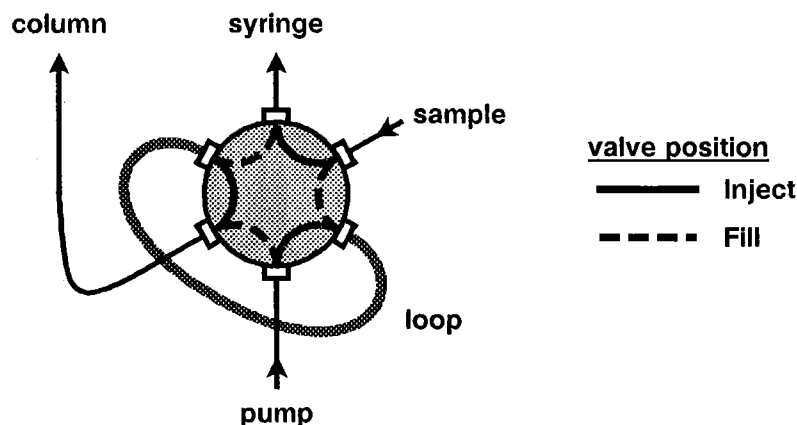

Fig. 19: Operating principle of the injector at the 690.0010/690.0020 Ion Chromatographs
A **manually** operated VALCO loop injection valve with a **100 µL loop** is built into the 690.0010 Ion Chromatograph for the injection of samples. If other sample volumes need to be injected, this loop must be replaced by a commercially available loop with the desired volume (e.g. 6.2620.080 sample loop 10 µL). Fig. 19 shows a schematic representation of the operating principle of the injector in the positions "Fill" and "Inject".
A VALCO loop injection valve – triggered **electrically** either by pressing switch (34) or externally by the 698 Autosampler – with a **100 µL loop** is built into the 690.0020 Ion Chromatograph for the injection of samples. If other sample volumes need to be injected, this loop must be replaced by a commercially available loop with the desired volume (e.g. 6.2620.080 sample loop 10 µL). Fig. 19 shows a schematic representation of the operating principle of the injector in the positions "Fill" and "Inject".